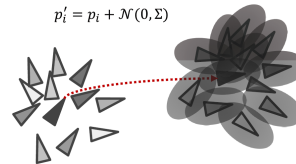

Figure 1: Particle Noise Model [2]
In this particular application, the particle filter was leveraged to partially span the distribution of possible sensor noise levels in the linear (2D) and angular dimensions. Figure 1 includes a representative model of the particles paths .
3. Discrete displacements and rotations were processed based on the noise model specified in Figure 1.